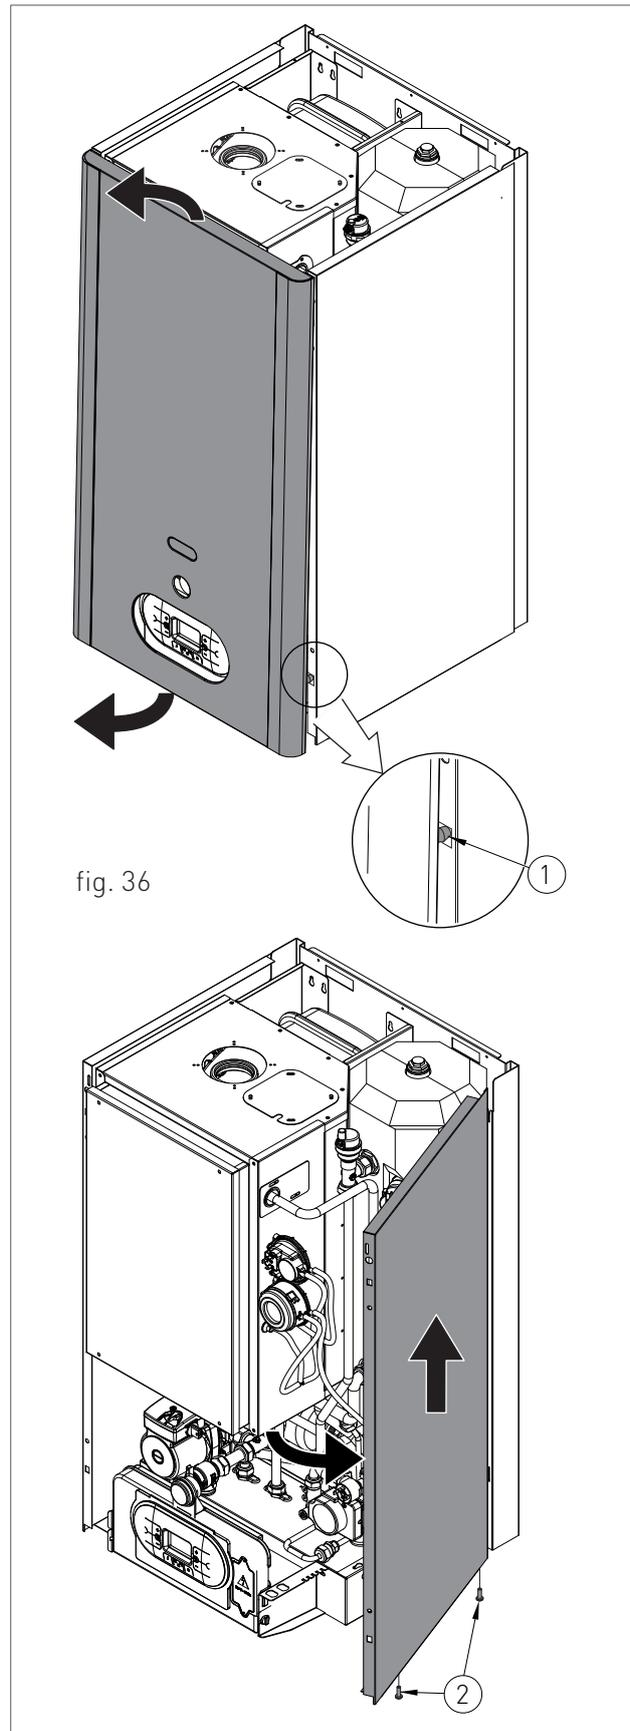

fig. 36
- › grasp the front panel base and pull it outwards to release the two fixing pins (1 - fig. 36) placed at the bottom;
- › remove the fastening screws (2 - fig.36) placed on the side panel;
- › grab the bottom of the panel and remove it by moving it sideways and then pulling it upwards (see fig. 36).